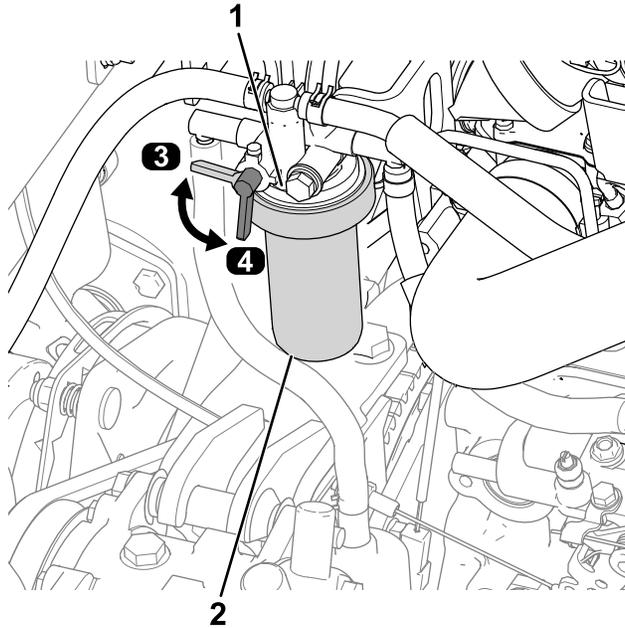

Figure 60
1. Rotate the fuel-valve lever to the OFF position (Figure 60).
2. Clean the area around the fuel-filter head (Figure 60).
3. Remove the filter and clean the filter head mounting surface (Figure 60).
6. Rotate the fuel-valve lever to the ON position (Figure 60).